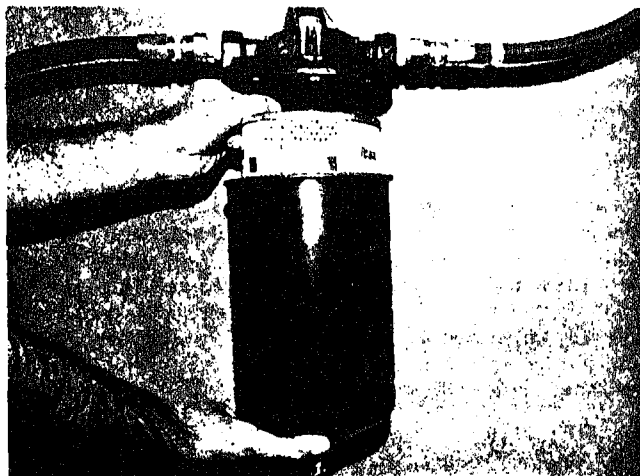

Fig. 5-14. Installing replaceable element fuel filter
2. Loosen nut at top of fuel filter. Take out dirty element, clean filter case and install a new element, Fig. 5-14.